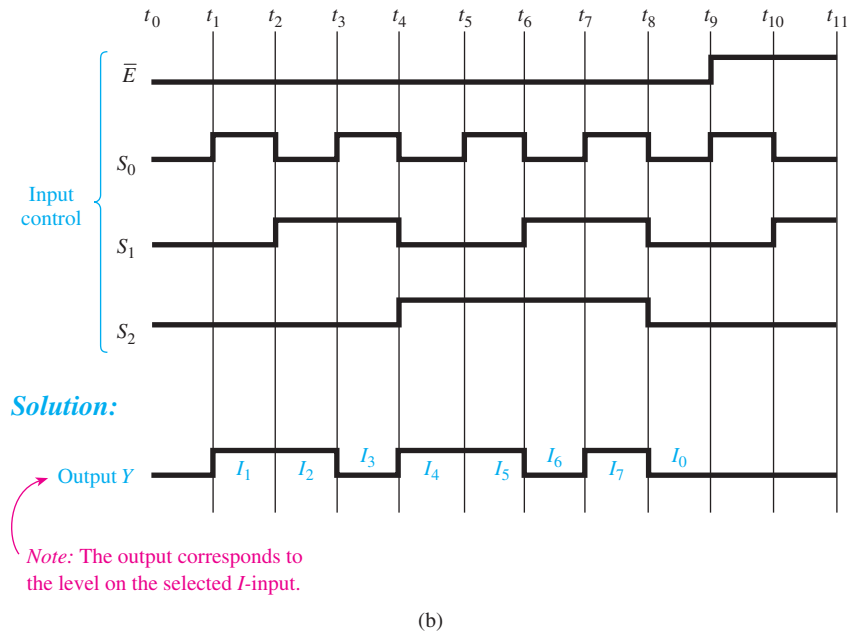

Figure 8–47 Continued
Figure 8–48 shows the MultiSIM® software simulation of the 74151 multiplexer. The object is to provide the capability to select one of the square wave signal sources (V_0 , V_1 , or V_2) and route it to output terminal Y , which is monitored by the oscilloscope. The data selection lines A , B , and C are used to select the desired input to be routed to Y . In this simulation the data selection lines are set to 0-0-0, which chooses signal source V_0 . Notice that signal source V_0 is a 1-kHz waveform. The oscilloscope is displaying a waveform with a period of 1 ms. This proves to be correct because $1/1 \text{ kHz} = 1 \text{ ms}$. Also remember that the enable control input G' must be at the 0 level to enable the multiplexer to work.
MultiSIM® exercise: Use MultiSIM® to open the file *fig8_48* from the textbook companion website.
- (a) Double-click the oscilloscope to expand its size and then turn on the power simulation switch to perform the simulation shown in Figure 8–48.